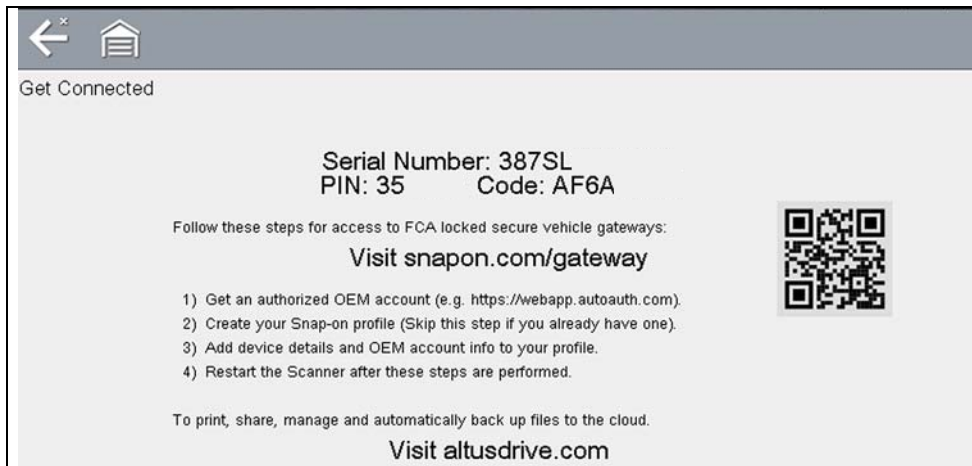
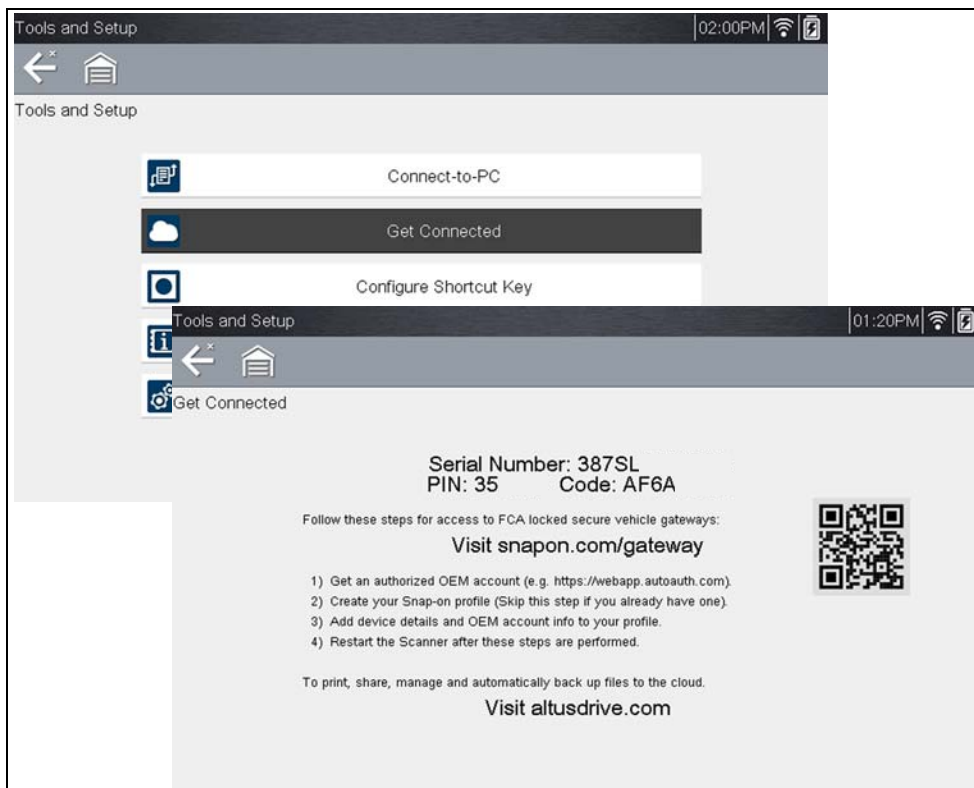

Figure 12-1
Figure 12-2
2. Write down the Serial Number, PIN and Code that are displayed when the device connects to the Wi-Fi network (Figure 12-1), or leave the screen displayed. Registration information can also be found in the Tools menu, see Snap-on Cloud Setup Information Screen on page 76.
The PIN and Code numbers will change each time you view the Snap-on Cloud Get Connected screen (Figure 12-2 and Figure 12-1). This is normal, any displayed set of PIN and Code numbers may be used to register.
From the Home screen, selecting **Tools > Get Connected** allows you view (Figure 12-2) the diagnostic tool serial number, PIN and Code needed to register.